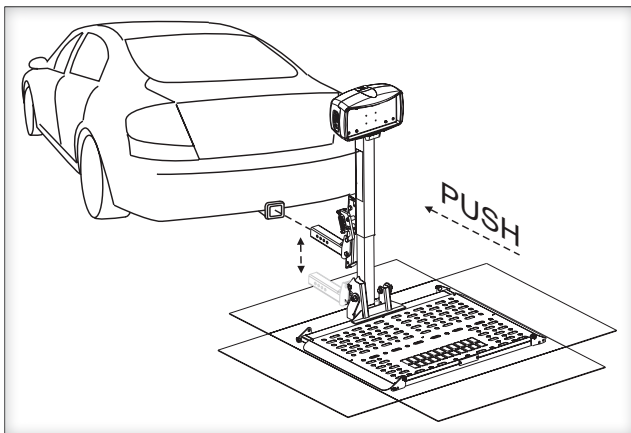

Figure 16-4
**6. Align the hitch adapter, using the power of the lift.** The lift will slide on the cardboard box. [Figure 16-4]